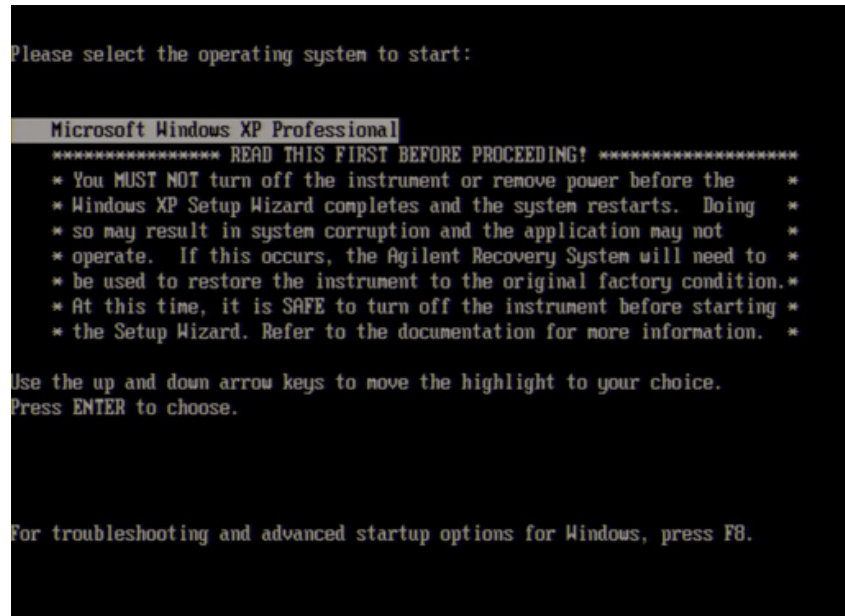

Figure 7 System start up screen (2/2)
Step 3. The screen as shown in the Figure 7 appears. Press [Enter].